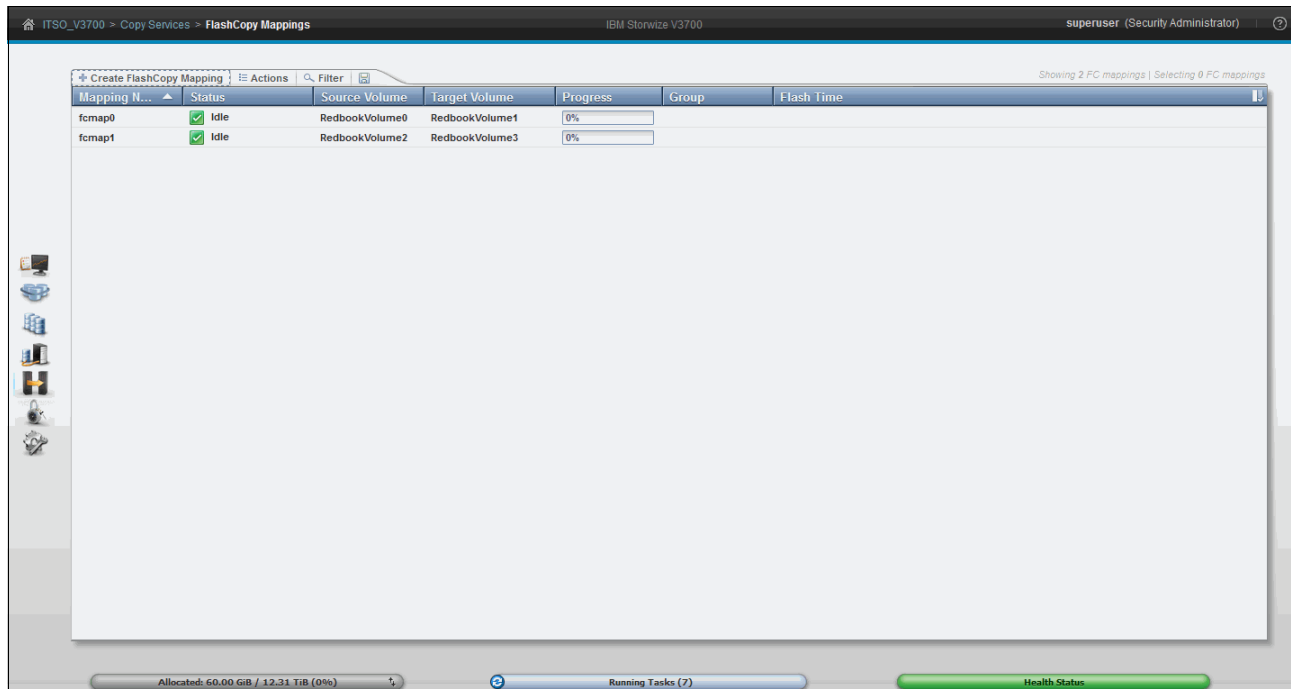

Figure 10-6 FlashCopy Mappings window
2. Click **FlashCopy Mappings** in the Copy Services function icon menu and the FlashCopy Mappings window opens, as shown in Figure 10-6. In this window, the FlashCopy mappings are listed individually.